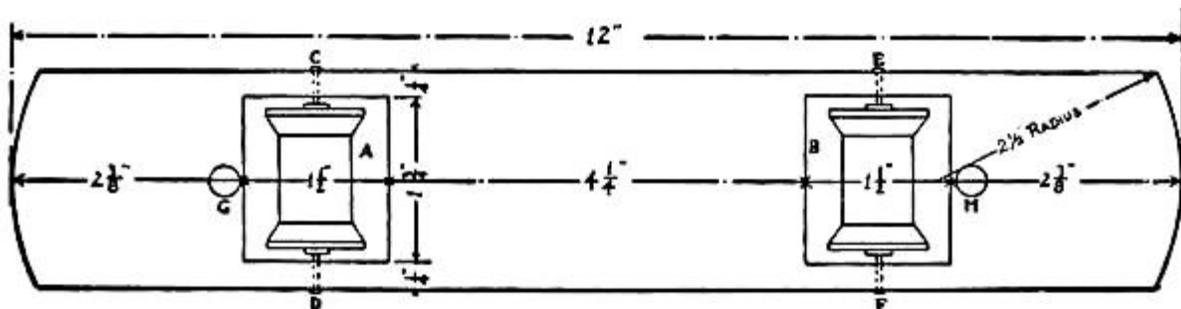

FIG. 358.—A Top View of Car Truck.
**The Cars** for this railway will have their trucks constructed alike, and it is a simple matter to transform a car from one style into another. Figure 358 shows a top view of a truck. For the bed of this cut a three-eighths-inch board twelve inches long by two and one-quarter inches wide, and, after rounding the ends as shown in the drawing, cut a mortise at *A* and *B* two and three-eighths inches from either end. Procure two one and one-half inch spools for wheels, and drive a wooden peg through the hole in each, cutting off the ends so they project a little beyond the hole, as shown in Fig. 359. Then bore four holes in the edges of the truck-bed with a gimlet at *C*, *D*, *E*, and *F* (see drawing), and, after setting the spools in mortises *A* and *B*, pivot them in place with small finishing nails driven into the wooden pegs. These nails should fit loosely in the gimlet holes. In order to drive them into the exact centres of the spools, it is best to locate these points upon the ends of the pegs before placing the spools in the frame. A quarter-inch hole should be bored in the top of the truck-bed at *G* and *H* (Fig. 358) in which to fasten the two uprights *I* and *J* (see Fig. 360). Make the uprights four inches long and whittle a peg upon the lower ends to fit holes *G* and *H* (see Fig. 361). Bore a hole with a gimlet in the top of each and run a piece of heavy wire from one to the other, bending it as shown in Fig. 360. Fasten *K* between *I*
**A Gondola Car**, such as shown in Fig. 362, should have its truck made similar to Fig. 358, with the exception that it should be two inches shorter, in order that cigar-box strips can be used for the side-pieces. Cut the strips an inch and one-half high and fasten them to the bed of the car with brads. This car may be used as a trailer.